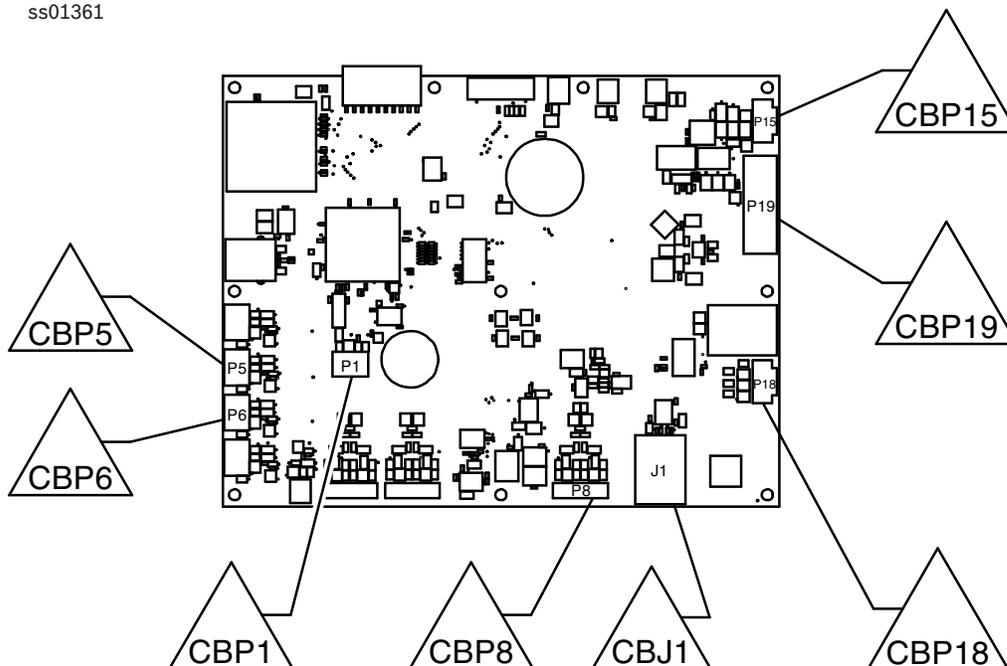

Figure 3-6. Control Board Connector Identification
2. Connect wires as shown in Figure 3-6.